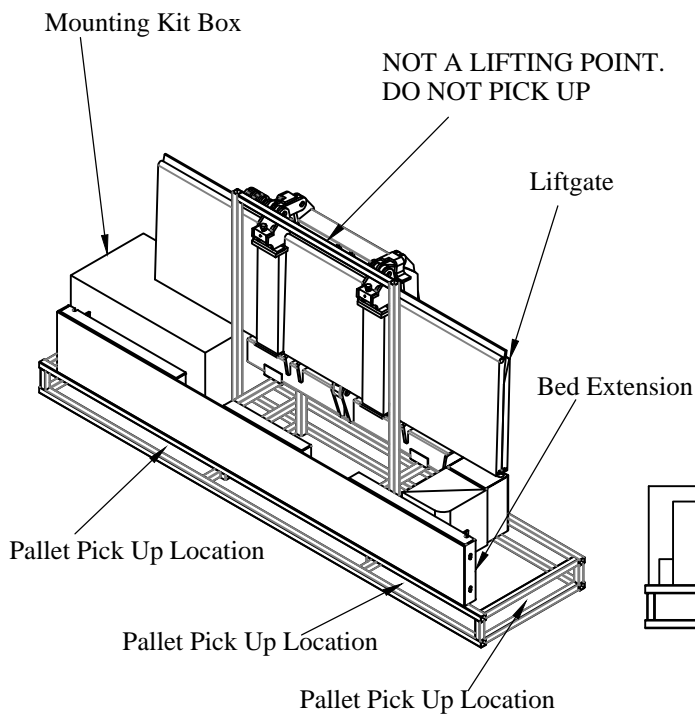

Figure 4: Pick Up Locations.
2. Use a forklift to pick up the pallet. **DO NOT** use the top bar as a lifting point (Figure 4).